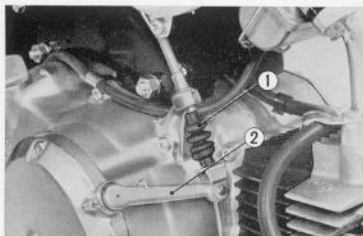

Fig. 4.3 Disconnecting the clutch cable
2. Disconnect the clutch cable ① lower end from the clutch lever ②. (Fig. 4.3)